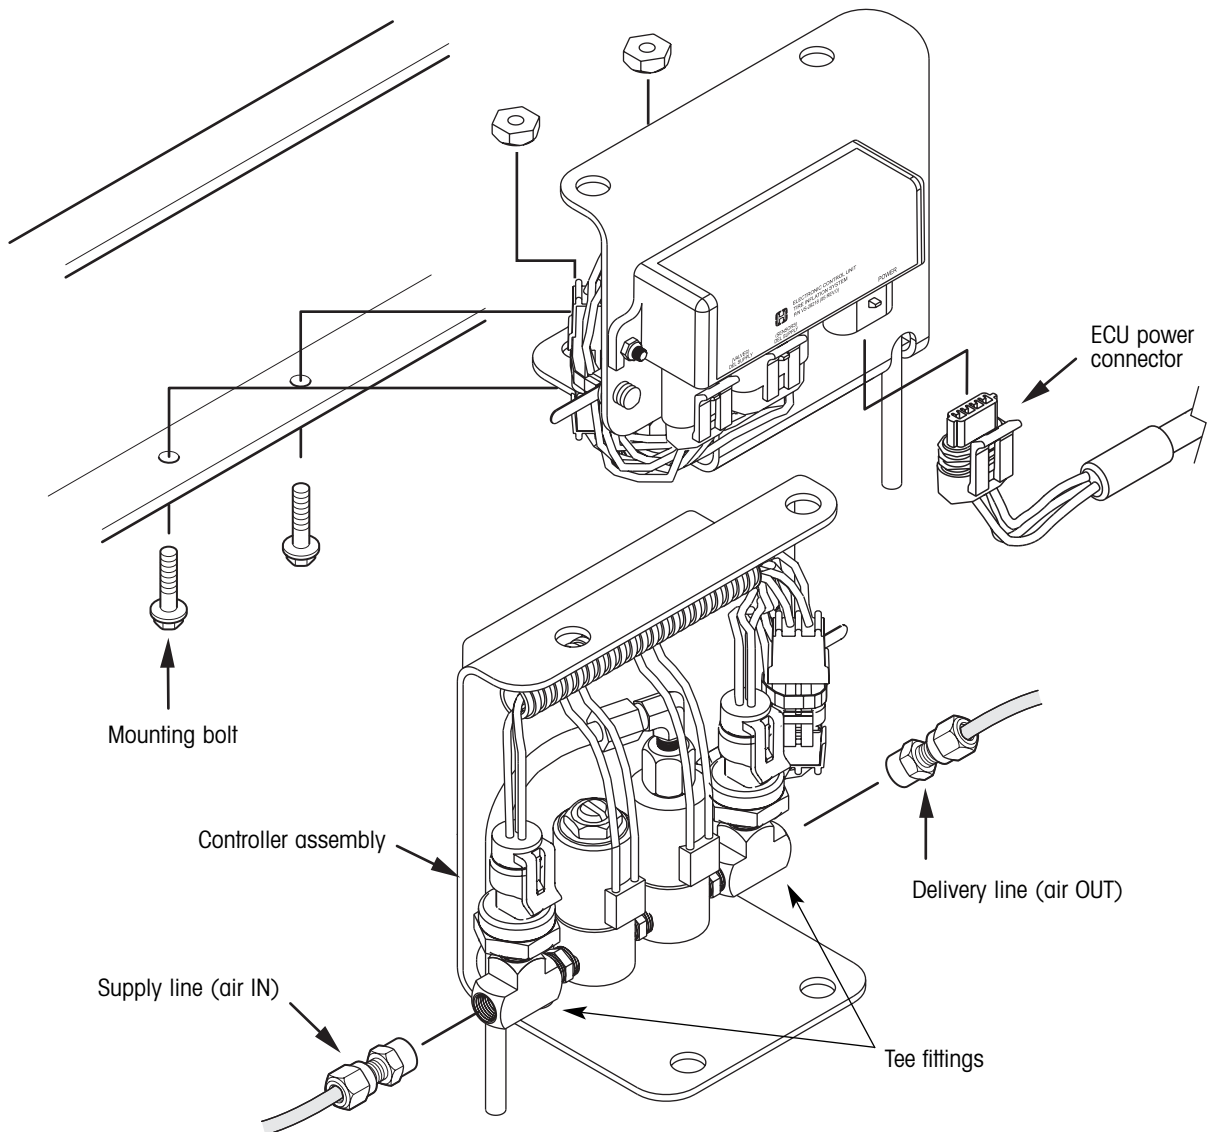

Figure 44. Controller assembly replacement
2. Disconnect the ECU power connector (figure 44).